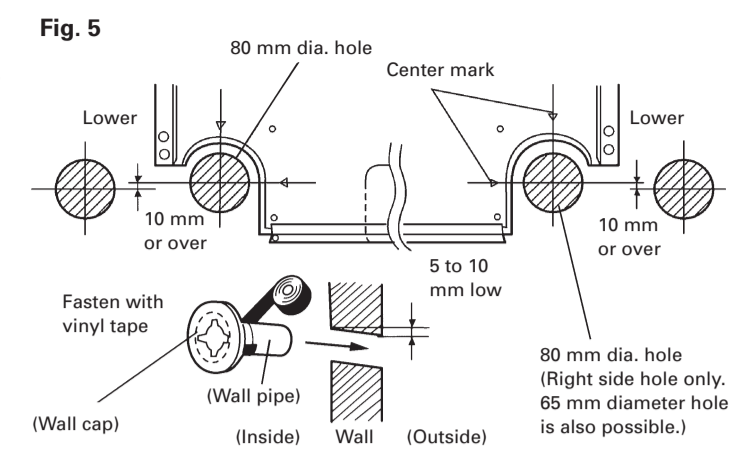

Fig. 5
- Cut a 80 mm diameter hole in the wall at the position shown in (Fig. 5).
- Cut the wall pipe to match the wall thickness, stick it into the accessory wall cap, fasten the cap with vinyl tape, and stick the pipe through the hole. (The connection pipe is supplied in the installation set.) (Fig. 5)
- For left piping and right piping, cut the hole a little lower so that drain water will flow freely. (Fig. 5)